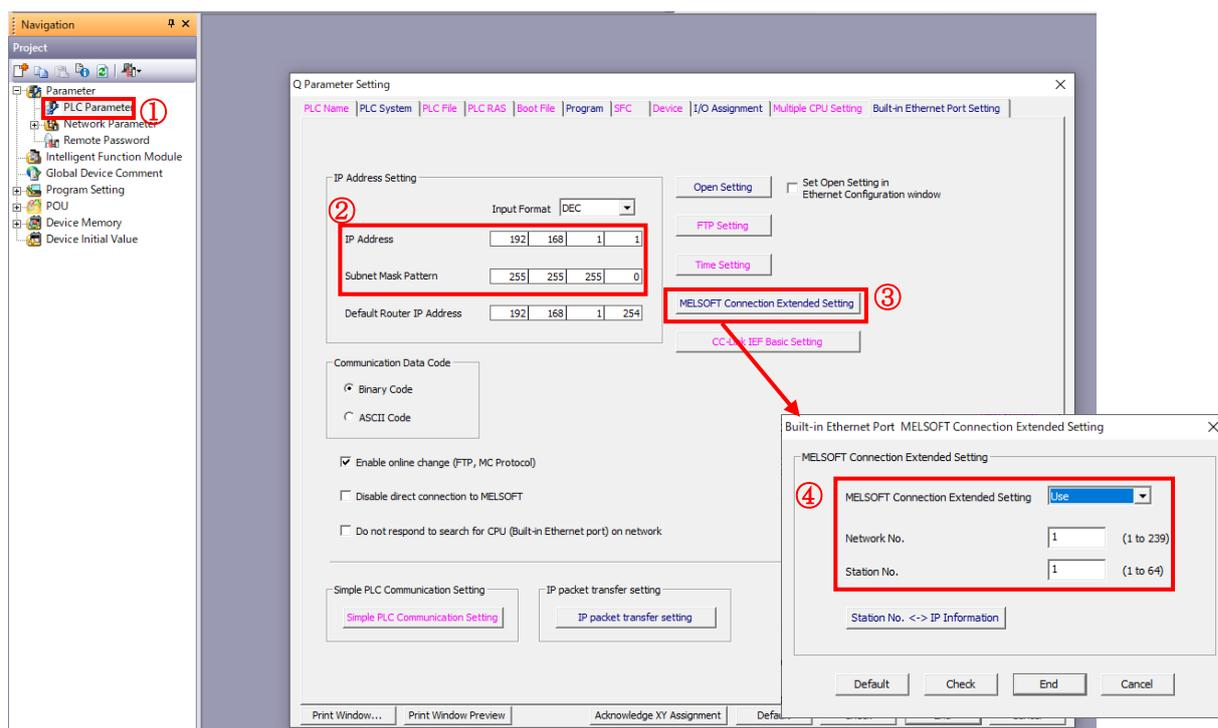

Figure 3-2 Built-in Ethernet module parameter setting (main PLCs)
① to ④ in Figure 3-2 show the setting steps of the built-in Ethernet module.
- ① After connecting the PLC, click "PLC Parameter" on the navigation tree menu.
- ② Enter the IP address and subnet mask on the Q Parameter Setting screen.
- ③ Open MELSOFT Connection Extended Setting.
- ④ Select "MELSOFT Connection Extended Setting: Use" and enter the network number and station number.